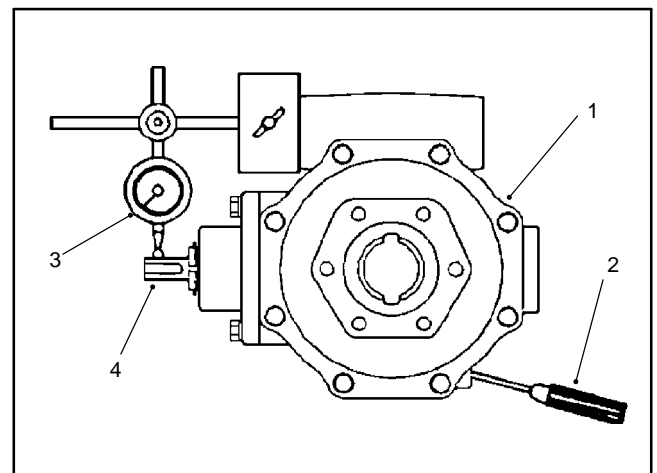

Figure 33
10. Insert a screwdriver through the drain plug hole to hold ring gear and measure the pinion gear to ring gear backlash (Fig. 33).